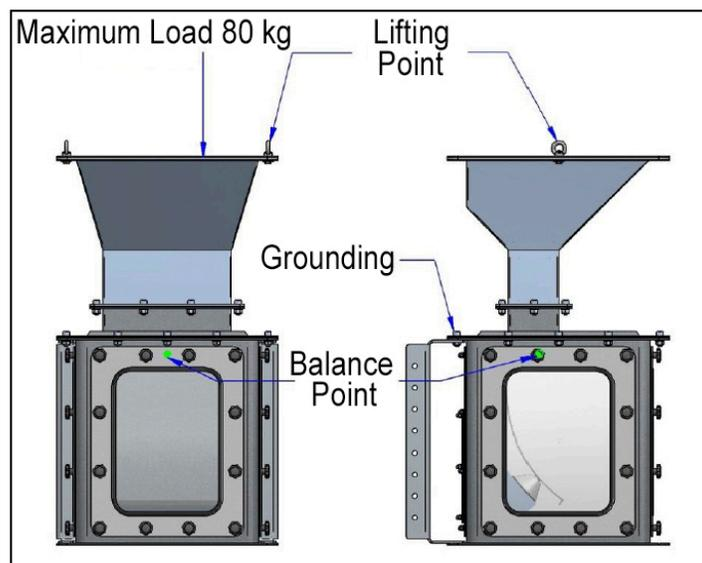

Figure 2-1. Lifting Points
- Transport the Bulkslide at designated lifting points (Figure 2-1)